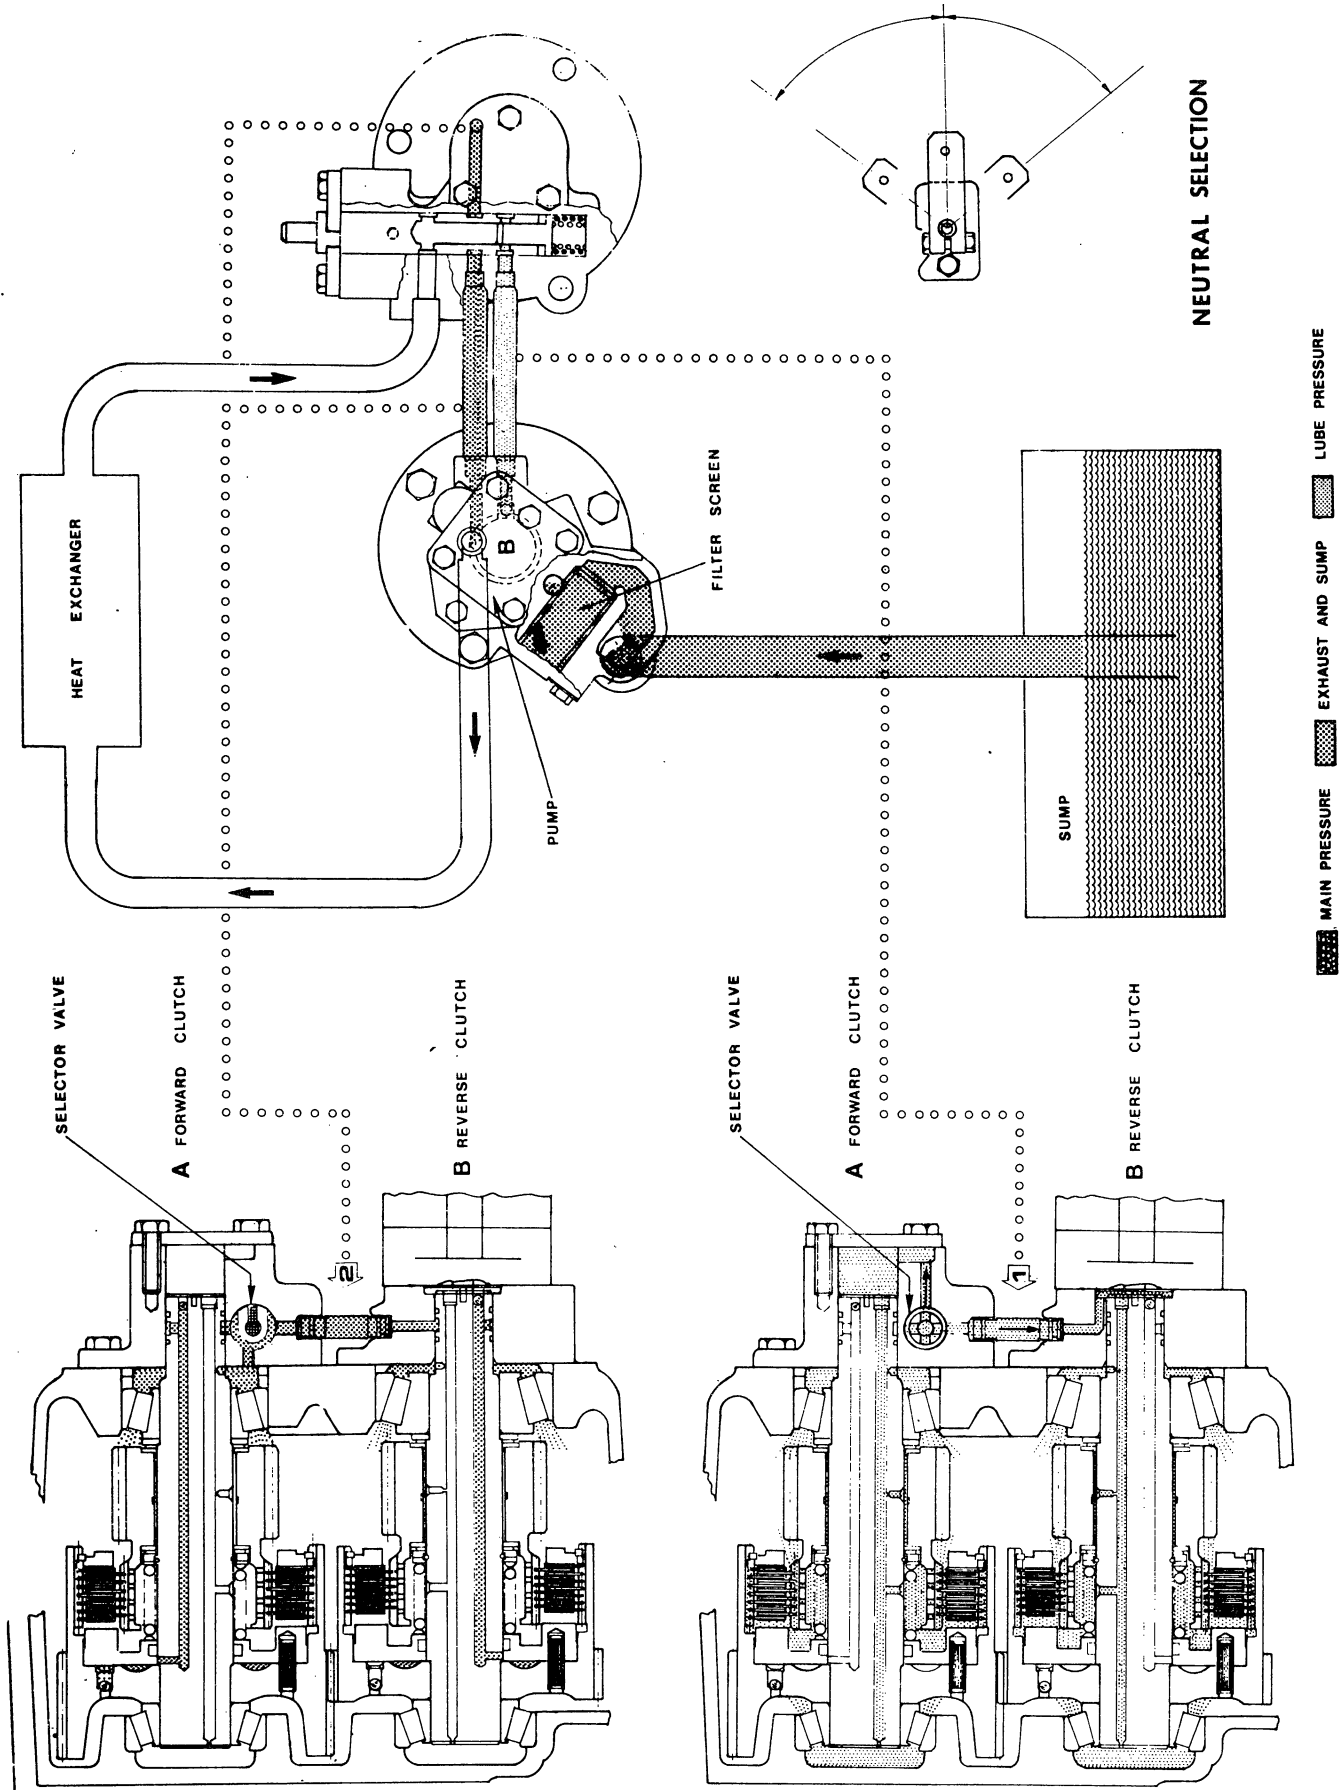

Fig. 7 . Marine Transmission oil flow - Neutral - Schematic drawing.
A. Neutral (fig. 7). Oil is pressurized by the main regulator valve in the regulator valve body to approximately 85 psi. Overage oil from the valve chamber of the regulator valve enters the lube oil passages and a connecting tube conveys lube oil to the pump mount. The lubricating oil is supplied to both clutch shafts for cooling and lubricating functions in the marine transmission. Since neither clutch is engaged, the remainder of the oil in the chamber not required for cooling and lubrication is returned to sump.